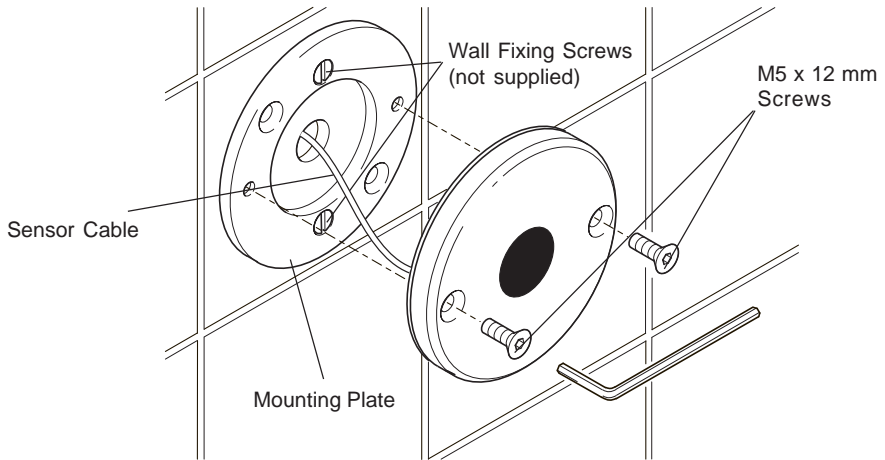

Figure 7
2. With the mounting plate secure, offer up the Rada 129 Sensor, and ensure the cable from the sensor runs through the centre hole (refer to Figure 7).